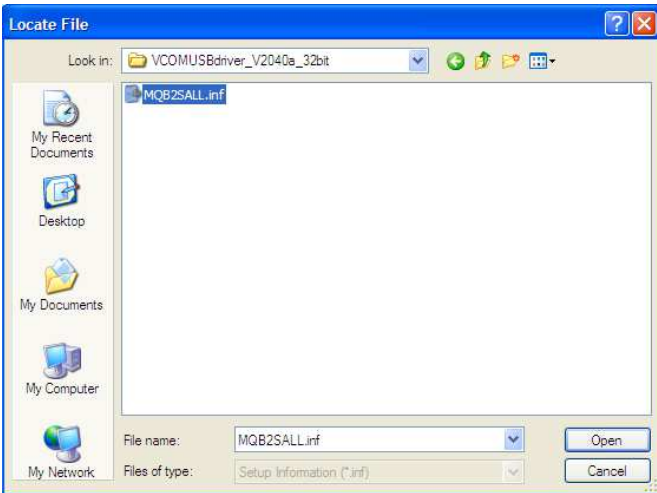

Figure 7. Open Hardware Driver
8. Find **MQB2SALL.inf** in *VCOMUSBdriver\_V2040a\_32bit* or *VCOMUSBdriver\_V2040a\_64bit* according to your PC OS, select it and click **Open** (See Figure 7).